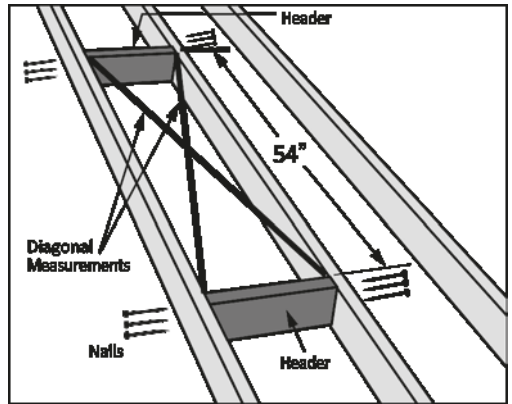

FIGURE 17
Make a rough opening to the size as required in table 1 ensuring that the dimensions of the diagonals of the frame are the same as illustrated in Figure 17.
A. For Rough opening without joist removal (Figure 17)
- Locate headers in front and rear of the opening as shown in Figure 17.
- Secure using (3) 16d nails into each end of the Header.